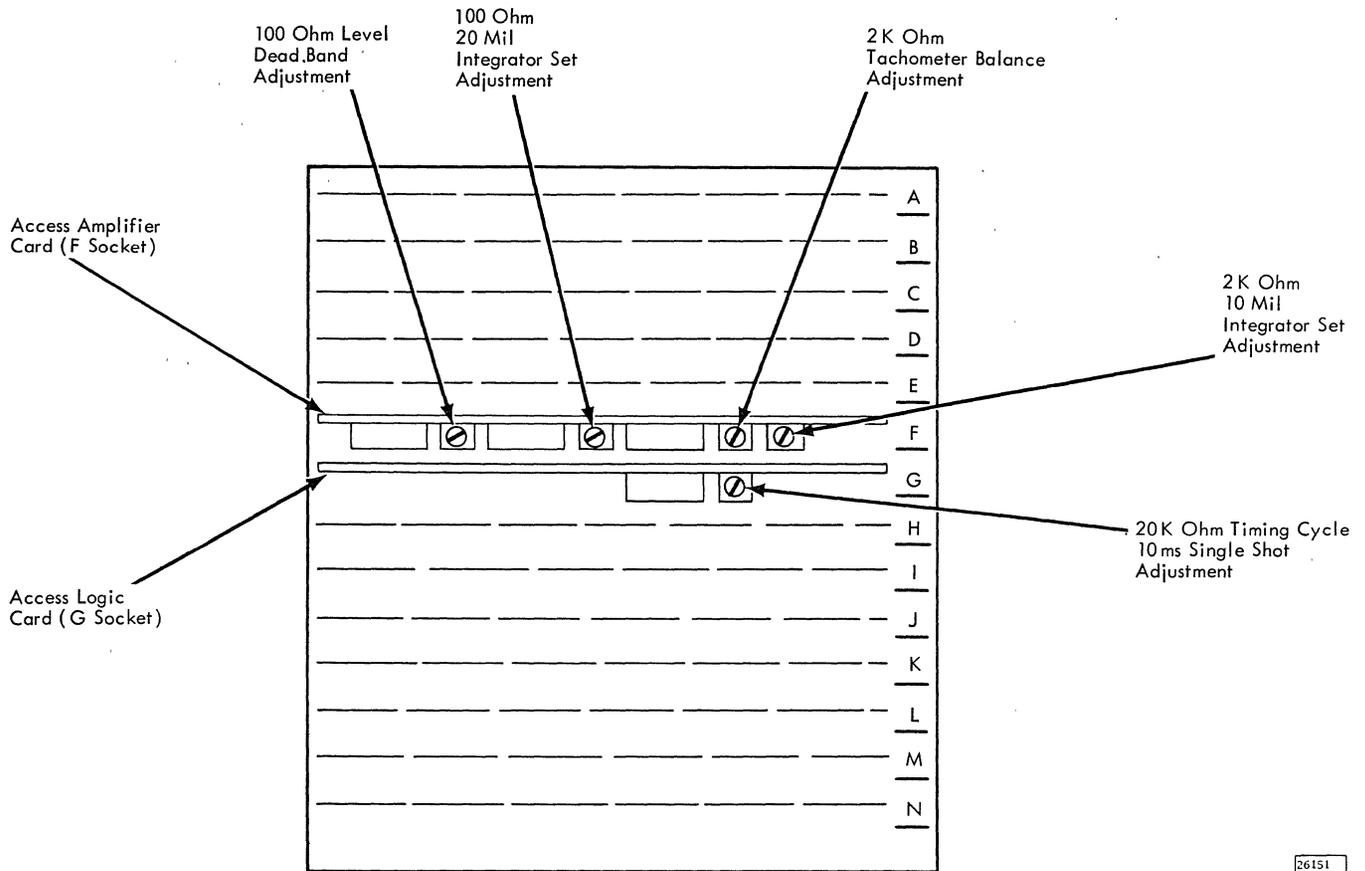

Figure 4-3. Access Adjustment, Potentiometer Locations
Four adjustments are accomplished in the access logic circuits to maintain carriage positioning. Figure 4-3 shows the location of potentiometers involved for these adjustments.
1. Apply power to machine and statically balance the tachometer amplifier output voltage measured between pins F2B12 and F2D11 by adjusting the 2k-ohm Tachometer Balance potentiometer (Figure 4-3) located on the Access Amplifier card.
2. Adjust the dead band in the power driver amplifier by using the 100-ohm level, Dead Band potentiometer (Figure 4-3) to narrow the width of the dead band. The voltage on F2D13 will become more positive as the dead band is narrowed, causing the actuator to oscillate.
3. Adjust the duration of the -L level of Access Ready signal for  $10 \pm 0.5$  milliseconds using the 20K-ohm, Timing Cycle potentiometer (Figure 4-3) located on the access logic card. A fine timing adjustment must be made after the 20 and 10 milli-inch Integrator Trip Level adjustments have been accomplished.
2. Perform an initial setting of the accelerating drive pulse width by adjusting the 100-ohm, 20 Mil Integrator Set potentiometer (Figure 4-3) to obtain a value of +3.9 vdc when measured at pin F2B02.
2. Perform an initial setting of the accelerating drive pulse width by adjusting the 2K-ohm, 10 Mil Integrator Set potentiometer (Figure 4-3) to obtain a value of +5.0 vdc when measured at pin F2B02.
2. Adjust the 20K-ohm, Timing Cycle potentiometer (Figure 4-3) to provide a time of  $14 \pm 0.1$  milliseconds between the negative-going leading edge of the Access Drive pulse at pin G3B03 and the positive-going trailing edge of the Access Ready signal at pin G2D04.